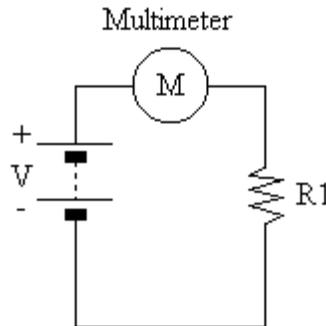

Figure 11. Current measurement setup
3. Turn the power supply off and then connect the multimeter in series with the power supply and the resistor as shown in Figure 11 below. Several resistors should be provided on the lab bench; you can pick any of them. Double check your circuit connections. Turn on the power supply and observe the current. Record the current value. Calculate the resistance using ohms law.